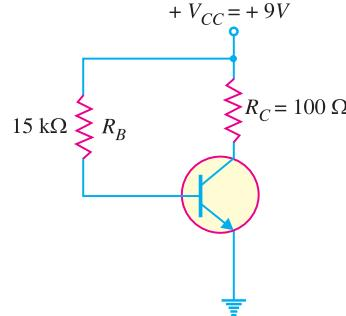

Fig. 9.54
12. The base bias circuit in Fig. 9.54 is subjected to a temperature variation from 0°C to 70°C. The β decreases by 50% at 0°C and increases by 75% at 70°C from its normal value of 110 at 25°C. What are the changes in  $I_C$  and  $V_{CE}$  over the temperature range of 0°C to 70°C ? [IC = 59.6 mA ; VCE = 5.96V]